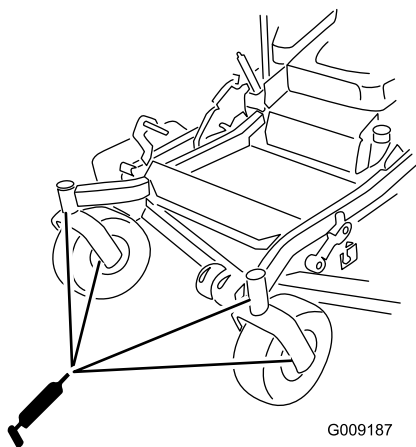

Figure 47
- Install the hex plug and dust cap (Figure 47).